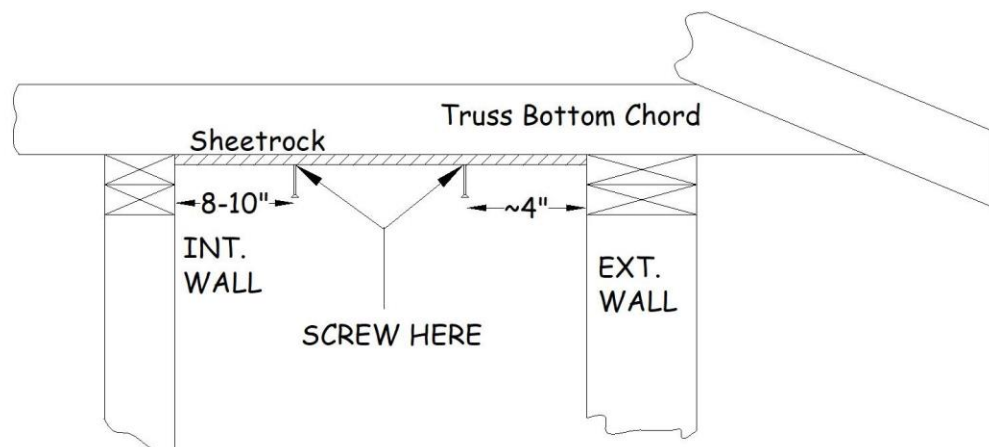

Figure 13-1. Screw Locations for Ceiling Sheetrock.
8. When fastening sheetrock to trusses that cross interior or exterior walls, hold the screws 8"-10" away from interior walls, and about 4" away from exterior walls (see Figure 13-1).
5. Also evaluate hallway areas extending from the kitchen/dining/living room areas. (In Figure 13-1, note that by extending the 2'-11" piece around the corner and into the hallway, a narrow filler piece could be avoided.)